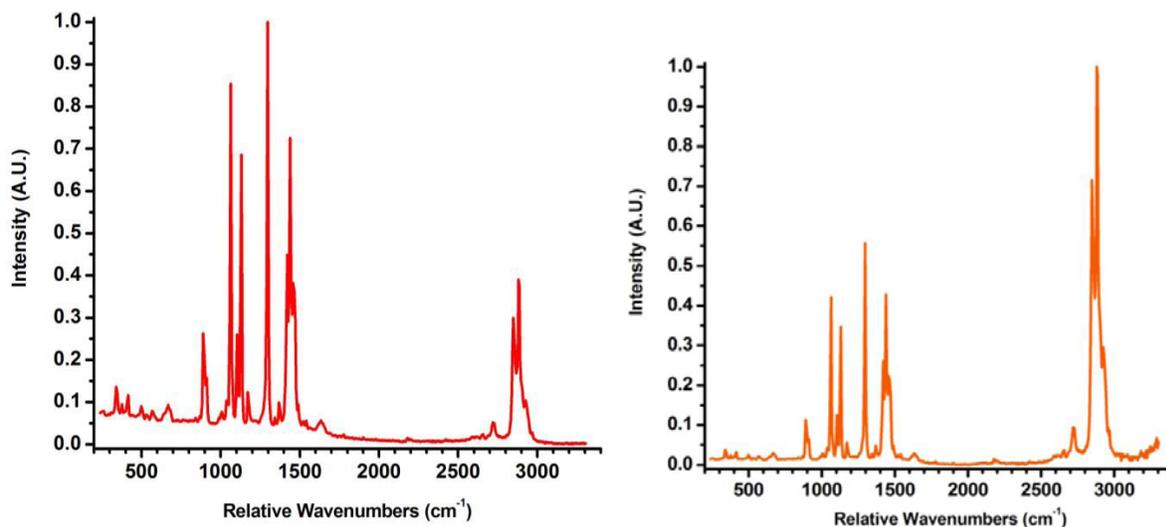

Figure 12. Raman spectra of stearic acid at 785 nm excitation, with (right) and without (left) intensity calibration.
A. Figure 12 (following page) shows the Raman spectra of stearic acid, a common component of pharmaceutical tablets. The left hand spectrum represents raw data, while the right hand spectrum has been corrected. The excitation wavelength was 785 nm, and the C-H stretching peaks at 2900 cm^{-1} are at 1015 nm, where the detector quantum efficiency is rapidly decreasing to zero. Intensity calibration restores the proper peak height ratio while flattening the baseline, allowing rigorous quantification of the fraction of stearic acid in a mixture. Without intensity calibration, the ratio of any two peak heights would change depending on the instrumentation used.